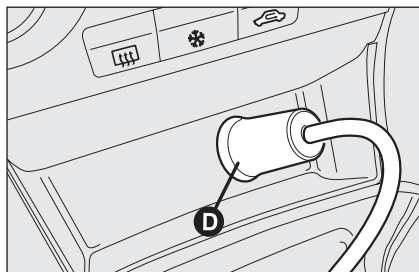
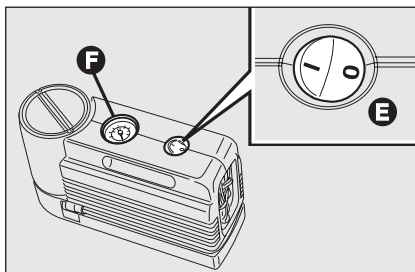

fig. 14
fig. 15
- make sure the compressor switch **E-fig. 15** is set to **0** (off), start the engine and fit plug **D-fig. 14** into the cigar lighter outlet and then turn on the compressor by setting switch **E-fig. 15** to **1** (on). Inflate the tyre to the pressure specified in paragraph “Cold tyre inflation pressure” in section “Technical specifications”. Check tyre pressure on gauge **F-fig. 15** with compressor off to obtain precise reading;